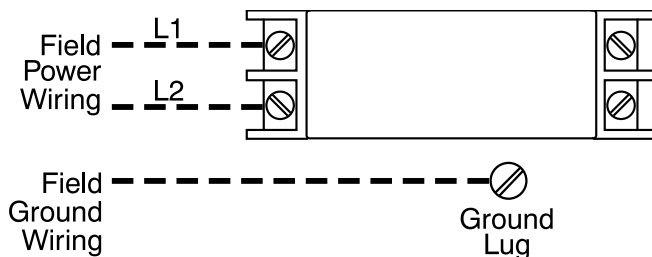
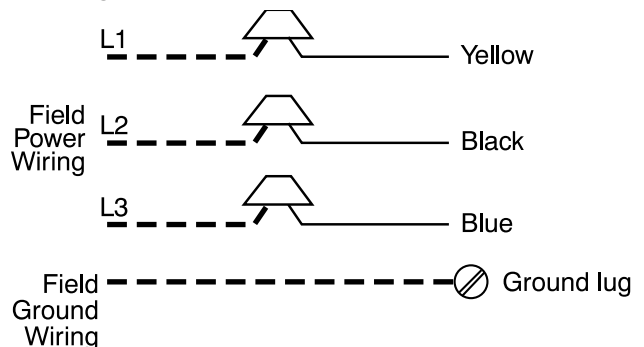
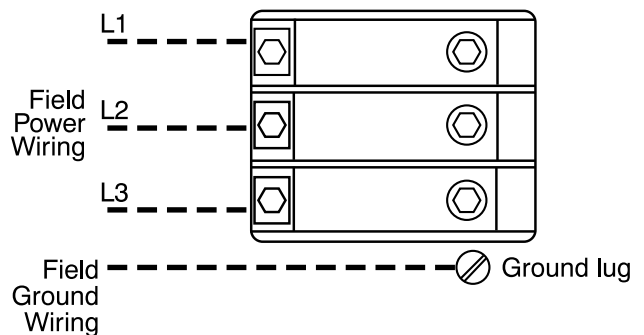

**Fig. 7 – 3, 5, 8, 9 10 kW Non-fused Heaters (9 kW is field convertible to 3-phase. See \(Power Connections on p6\).**
**Fig. 11 – 15 kW 3-Phase Heater**
**Fig. 12 – 18 kW 3-Phase Heater**
1. Unprotected heaters: See Fig. 7, Fig. 11, and Fig. 12.